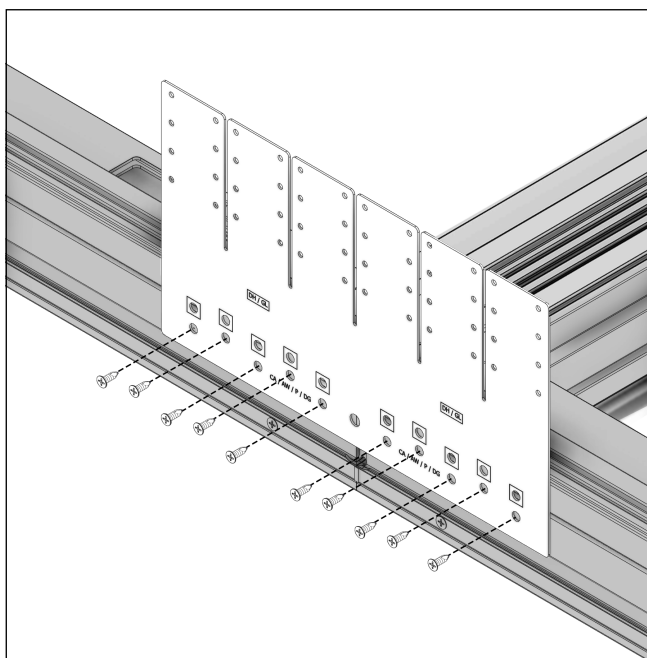

Figure 14
4. Fasten full gusset plates with the supplied #7 x 1/2" flathead screws. Do not over-tighten. See Figure 14.